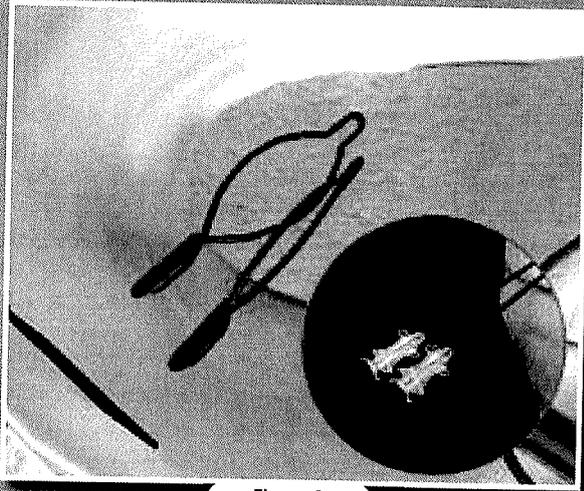

Figure 3
- ∂ Remove both stylets and insert loops through the needles. Rotate the loop to accept the suture (Figure 3).